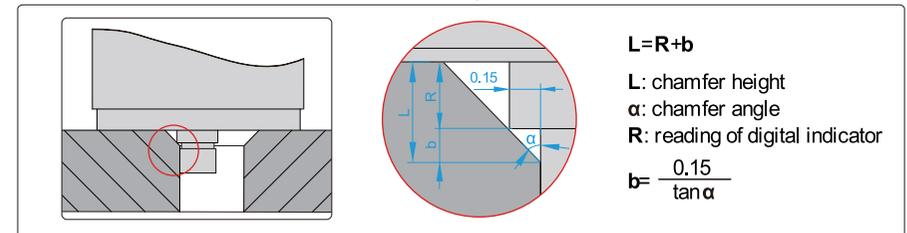

fig.2
- For the calibration that he reading is adjusted to zero, the chamfer height $L = R + b$ (fig.2).